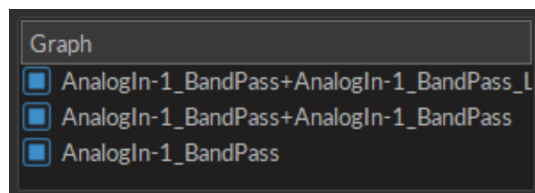

Figure 4.35: Show/hide Graphs Window
- The **Toggle graphs** button opens the **Show/hide graphs** window (Fig. 4.35). Any checked data sets will be displayed in the **Graph box**.